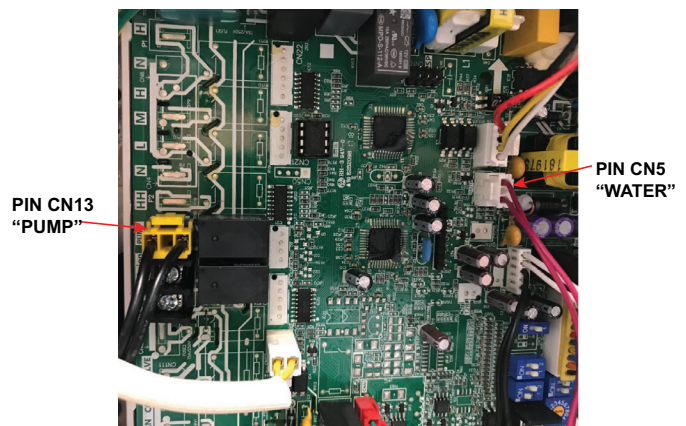

Fig. 45 —Condensate Lift Pump Connectors
- Plug the power cable of the external pump to CN13 / "PUMP" pin and plug the water level sensor cable to the CN5 / "WATER" to enable the pump (see Fig. 45).